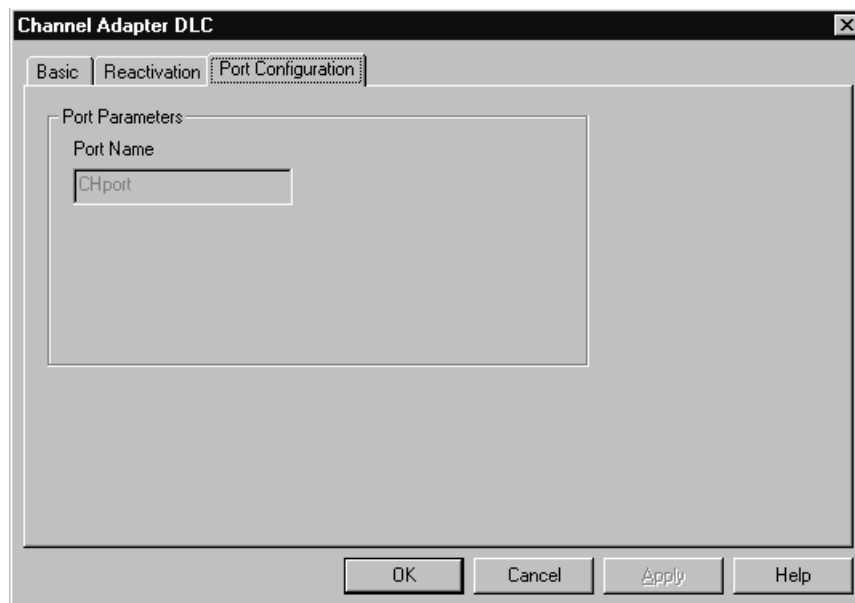

Figure 7-15. Port Configuration
3. Click the **Port Configuration** tab to cause the configuration utility to select the channel port (Figure 7-15).